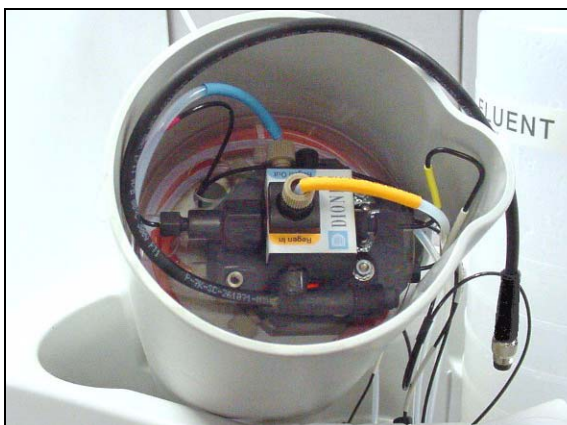

Figure 35. CR-TC Installed in Holder
5. Check that none of the lines are caught under the CR-TC and then push the CR-TC onto the metal stud inside the EGC holder (see Figure 35). Push down until the CR-TC snaps into place.